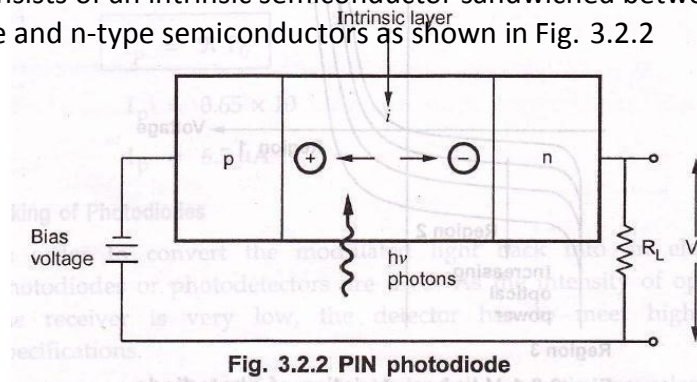

Fig. 3.2.2 PIN photodiode
- PIN diode consists of an intrinsic semiconductor sandwiched between two heavily doped p-type and n-type semiconductors as shown in Fig. 3.2.2